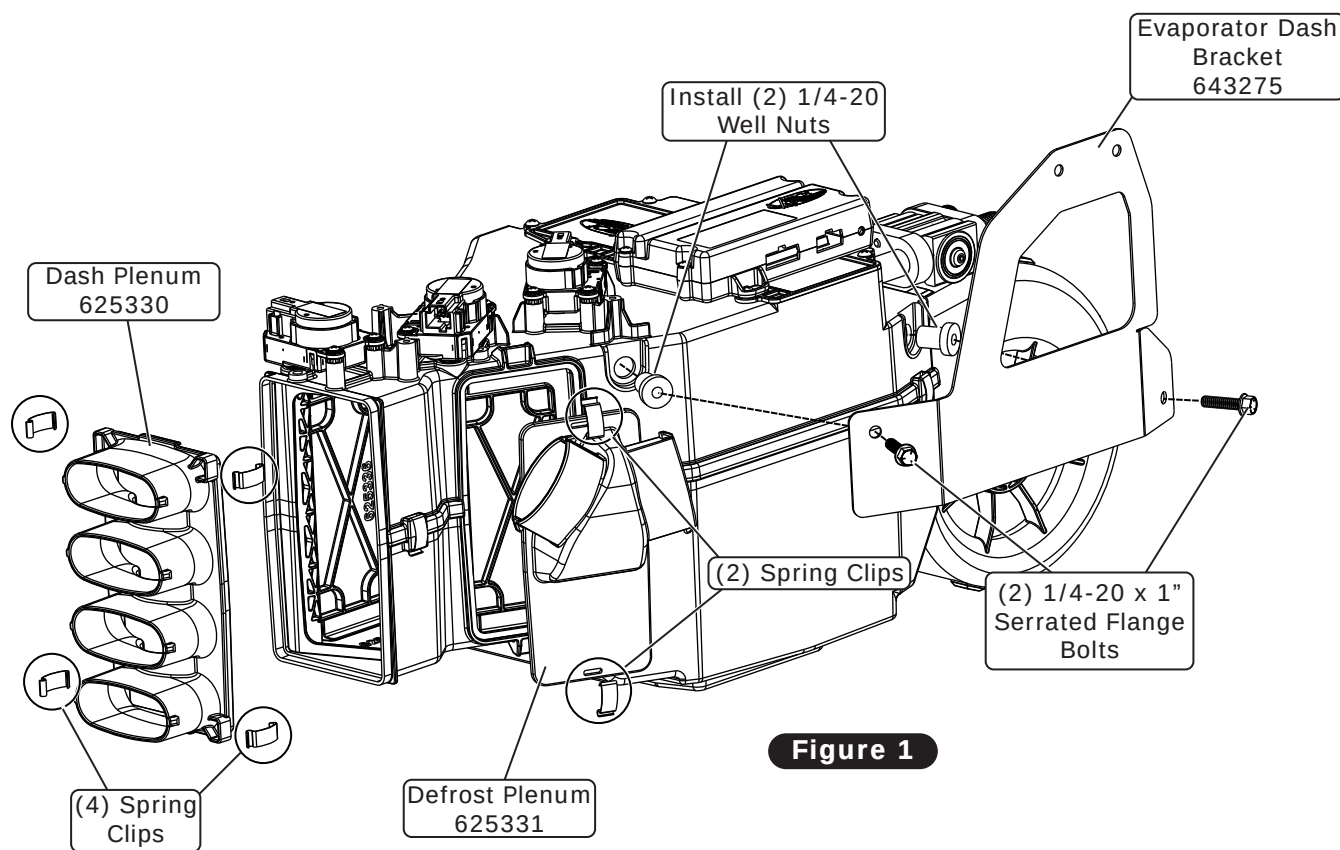

Figure 1
1. On a workbench, install the defrost plenum onto the evaporator module with (2) spring clips (See Figure 1, below).
2. Install the dash plenum onto the evaporator module with (4) spring clips (See Figure 1, below).
3. Install (2) 1/4-20 well nuts onto the evaporator module as shown in Figure 1, below.
4. Secure the evaporator dash bracket onto the evaporator module using (2) 1/4-20 x 1" serrated flange bolts (See Figure 1, below).